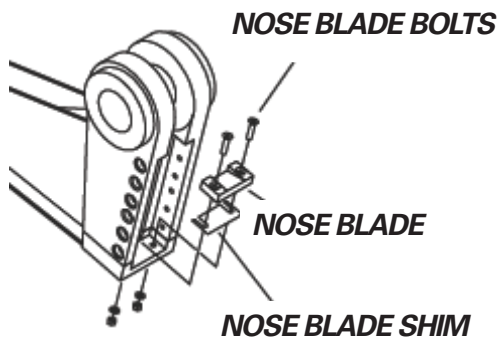

FIGURE 7-22
1. See Figure 7-22. Remove the lower blades to get access to the nose blade bolts.